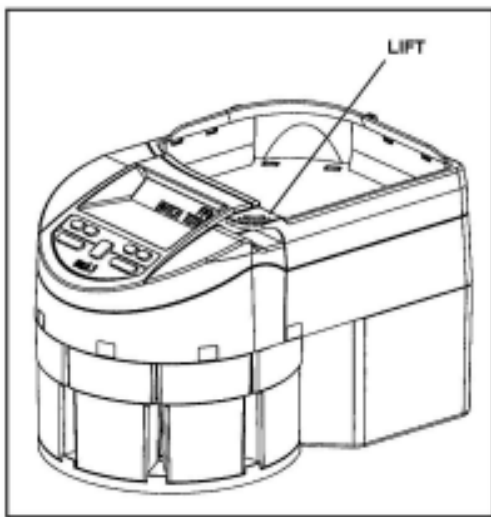

Figure 3. 6
The Mach 3 has six (6) Sorting Stations. They are numbered as shown in Figure 3 - 1 below. In some applications, not every Sorting Station would be used.